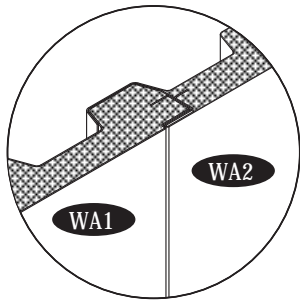

Fig.1
15. Make sure the panel joint must be as shown in fig.1. Secure the wall panel with base 'U' channel by using (S1) screws from inside.